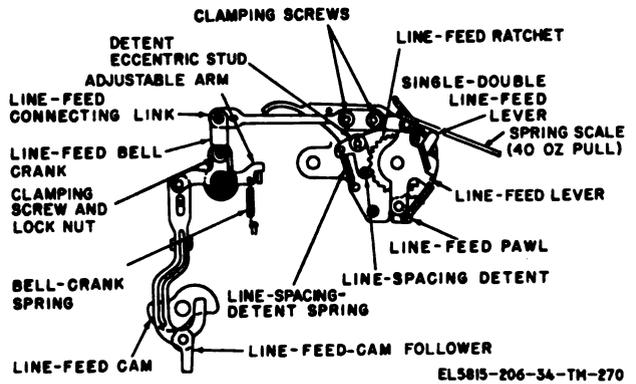

Figure 3-198. Line-feed bell-crank adjustment (TT-4B/TG and TT-698A/TG).
3-230. Line-Feed Bellcrank Adjustment (TT-4B/TG and TT-698A/TG) (fig. 3-198)
3-232. Line-Feed Connecting-Link Adjustment (TT-4B/ TG and TT-698A/ TG) (fig. 3-198)
(1) Hook a spring scale on the upper arm of the line-feed lever and exert a downward and forward pull of 40 ounces on the spring scale while receiving repeated line-feed code combinations. This should not prevent the line-feed mechanism from turning the platen.
(2) When the teletypewriter is in the stopped position, attempt to rotate the platen forward and backward. It should rotate freely.
c. Adjustment. Loosen the clamping screws that hold the line-feed connecting link and position the single-double line-feed lever for double line feed operation. Select the line-feed code combination and turn the motor by hand until the line-feed-cam follower is on the high part of the line-feed cam. Rotate the line-feed lever (fig. 3-198) until the platen has advanced two line spaces. Tighten the clamping screws to hold the connecting link in this position.